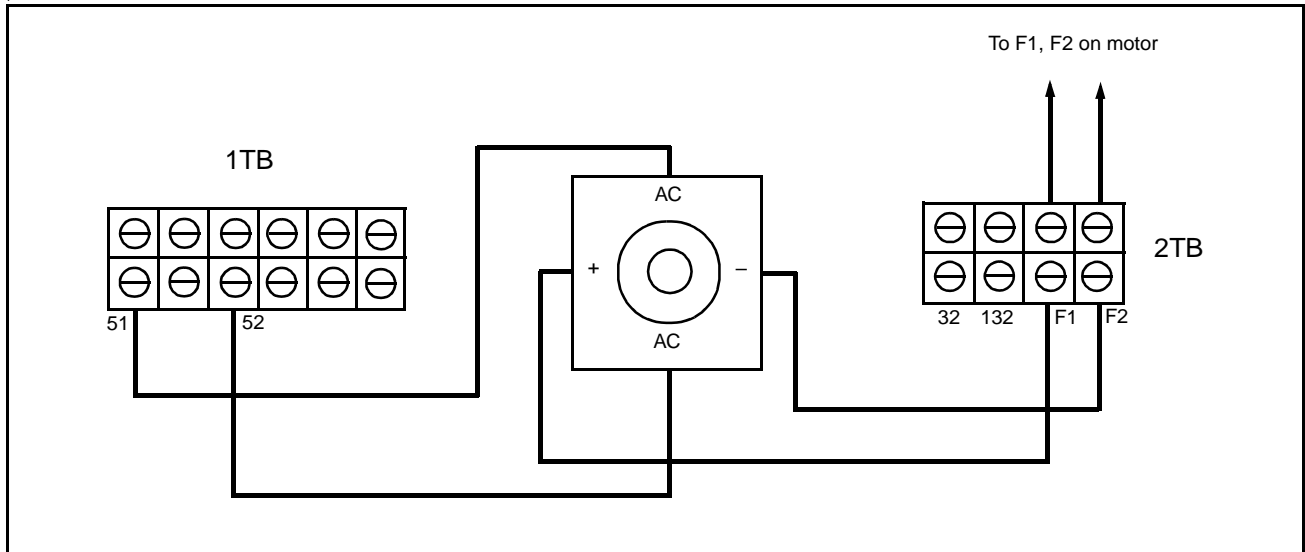
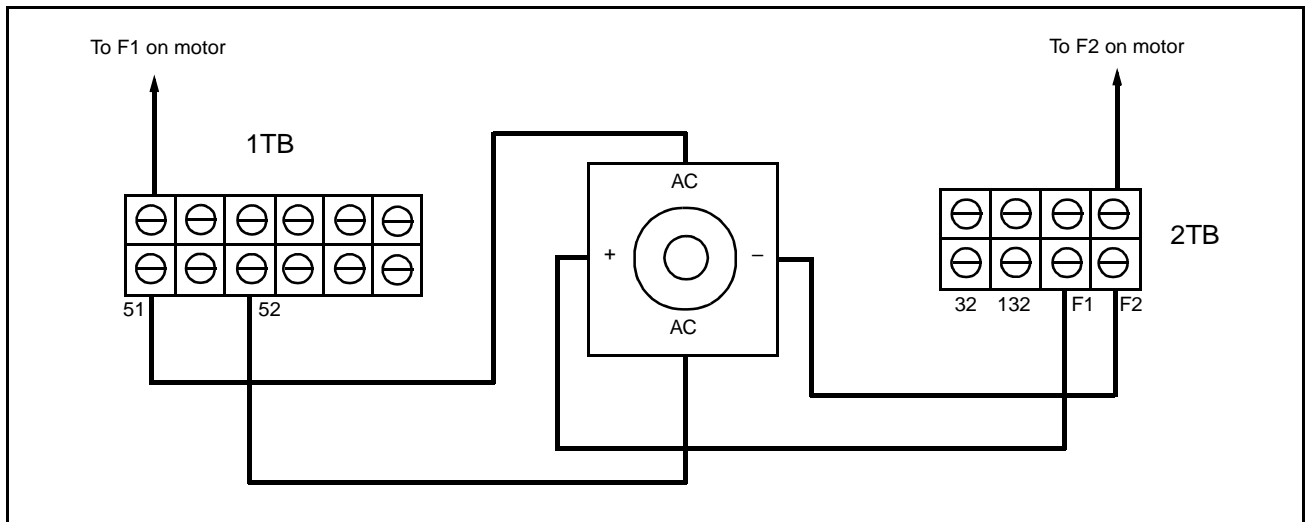

Figure 1 – Connecting the Field Supply (Full-Wave)
Figure 2 – Connecting the Field Supply (Half-Wave)
- Step 9. Disconnect the two wires from old terminal block 32/132. Connect them to terminals 32 and 132, respectively, on new terminal block 2TB, as shown in figure 1 (full-wave supplies) and figure 2 (half-wave supplies). Discard the old terminal block.
- Step 10. Connect wire harness 51/52 to terminal block 1TB. Connect wires F1 and F2 from the Field Supply to terminal block 2TB on the Field Supply mounting bracket. Refer to figure 1 or 2.
- Step 12. **For a full-wave supply**, connect the motor field wires to terminals F1 and F2 on Field Supply terminal block 2TB. See figure 1.
**For a half-wave supply**, connect motor lead F1 to terminal 51 on 1TB and motor lead F2 to terminal F2 on 2TB. See figure 2.